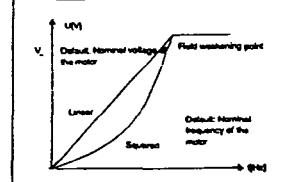

Figure 5.4-2 Linear and squared V/f curves.
- Linear The voltage of the motor changes linearly with the frequency in the constant flux area from 0 Hz to the field weakening point (par. 6.3) where a constant voltage (nominal value) is also supplied to the motor. See figure 5.4-2 A linear V/f ratio should be used in constant torque applications.
- Squared 1 The voltage of the motor changes following a squared curve form with the frequency in the area from 0 Hz to the field weakening point (par. 6.3) where the nominal voltage is also supplied to the motor. See figure 5.4-2